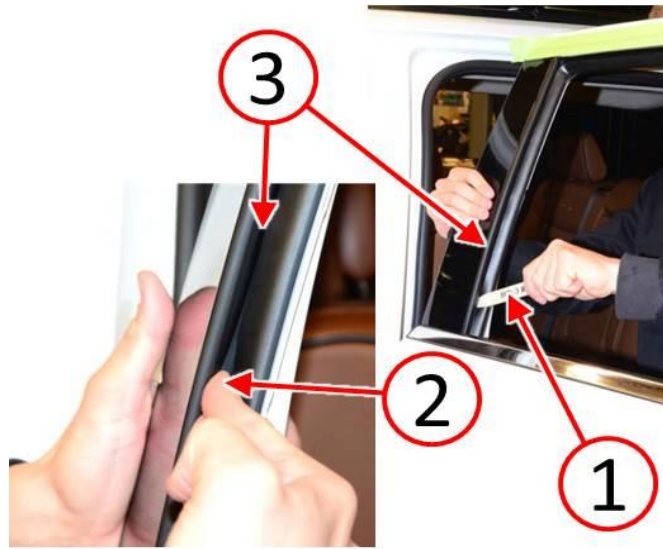

Fig. 20 Seat Door Glass Run Seal Into Channel
NOTE: Pressing fingers (2) into the glass run seal groove allows for feel of when the seal is fully seated into the glass run channel (Fig. 20).
7. Use a fiber trim stick (1) and fingers (2) in order to fully seat the door glass run seal into the door glass run channel (Fig. 20).